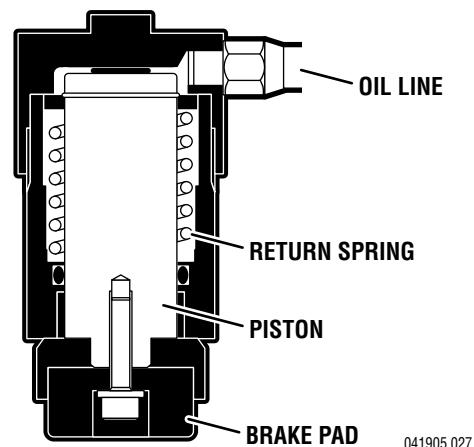

Figure 1-13. Single Action Brake Cylinder
6. Brake Cylinders - The brake cylinders are single action type similar to the elevation cylinder. The movable piston's ram is connected to a brake pad. See figure 1-13. Oil pumped into the top of the cylinder pushes the piston down raising the table base off its casters. An internal return spring on the bottom of the piston, pushes the piston up to return the oil through the mini-valve to the reservoir.